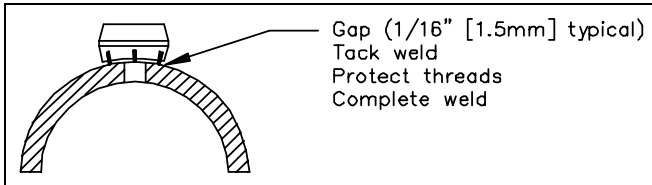

Figure 3. Weld Gap
- Using the appropriate weld gap (1/16" [1.5mm] typical), tack weld the threadolet into position, then remove the sensor and Spring-Lock body. Protect threads on the threadolet and finish welding the threadolet to the pipe per applicable codes (see Figure 3).